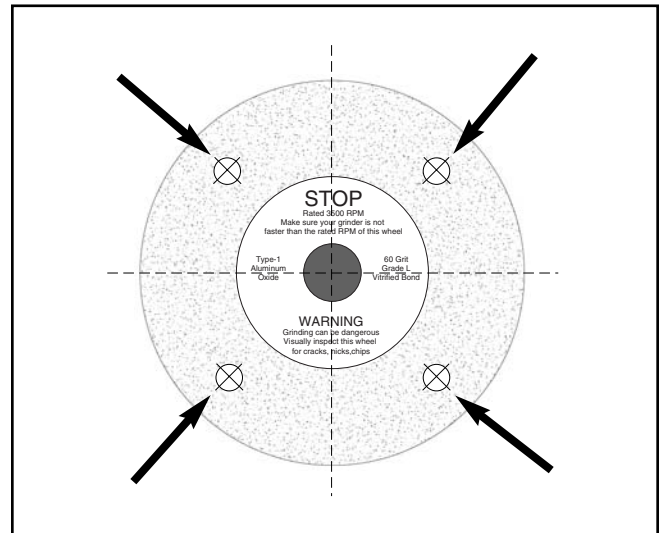

Figure 2. Ring test tapping locations.
3. At the spots shown in **Figure 2**, gently tap the wheel with a light non-metallic device such as the handle of a screwdriver or a wooden mallet.